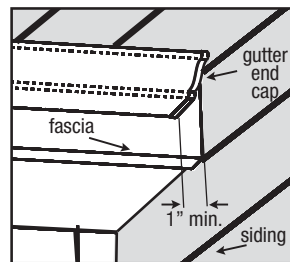

FIGURE 12
- Maintain a minimum 1" gap between gutter end caps and siding & trim (fig. 12).